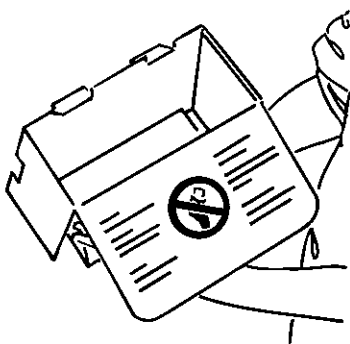

Figure 3.16 New cassette collection box with lids folded properly.
7. Insert the new collection box making sure the lid is folded down so that the instructions face the door (Fig. 3.16).